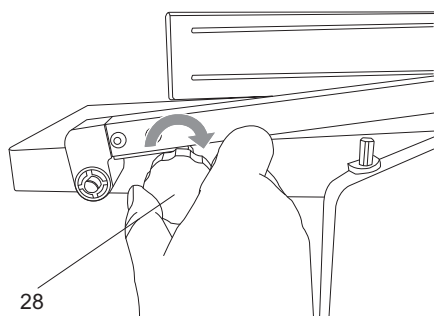

Fig. 9
- > Tighten the locking knob (28) clockwise. (Fig. 9)